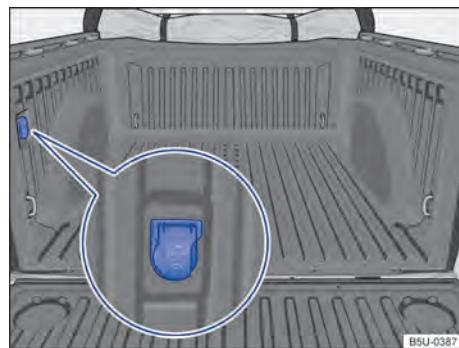

Fig. 107 Luggage compartment: 12-volt socket.
- The 12-volt socket is located on the internal luggage compartment → Fig. 107 (not available in some vehicle versions).